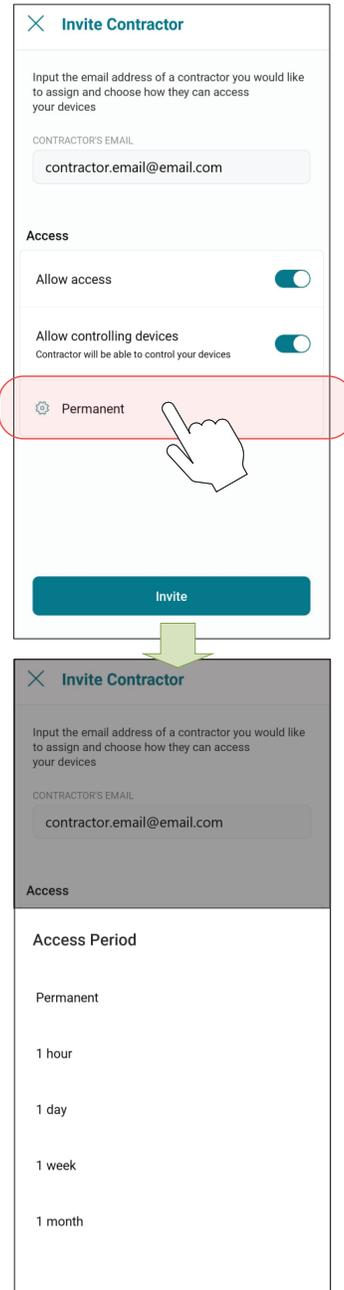

Figure 111. Enter Contractor Email and Access Level
- Add your contractor’s email and select the access options as needed. See Figure 111: